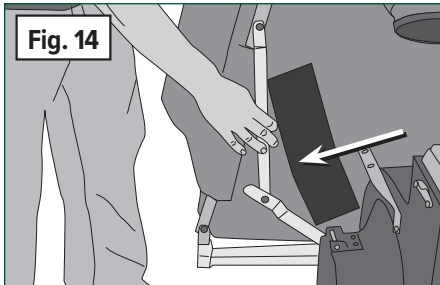

Fig. 14
3. **(Fig. 14)** Starting on either side, release only one side linkage. ***Pull the link elbow toward you,*** so it points to the outside of the frame.